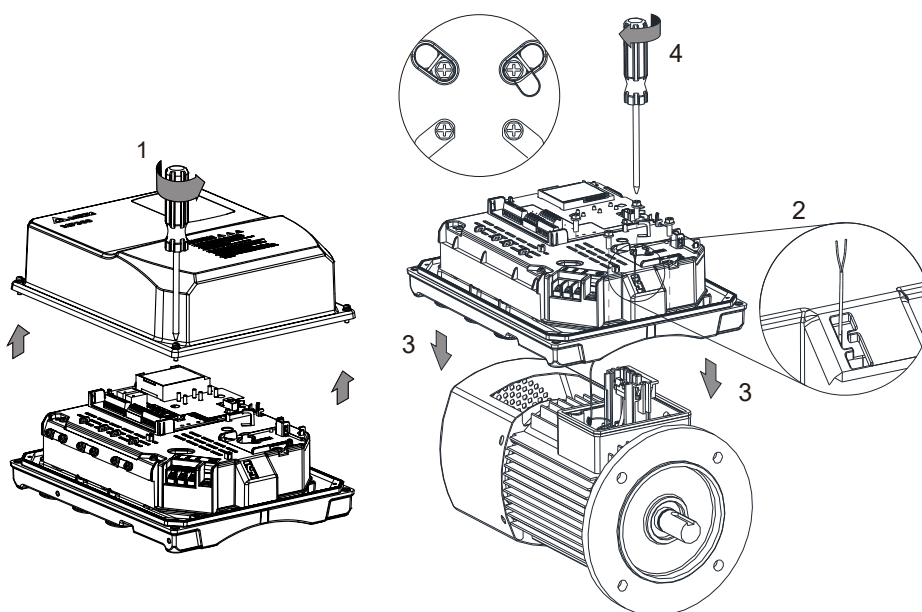

Figure 4-4
3. Assemble the AC motor drive and the motor according to the direction arrow shown in the Figure 4-4. If the thermal wire is assembled, pay attention that do not let the thermal wire exceed the waterproof ring's boundary on the motor terminal box, otherwise the thermal wire will be flatted and broken.
4. Screw up four M5 screws according to the positions shown in the Figure 4-4
6. Put the front cover back, and screw up the screws according to the order from a to d (see Figure 4-4). Screw Torque: 6~8 kg-cm / [5.2~6.9 lb-in.] / [0.59~0.78 Nm]